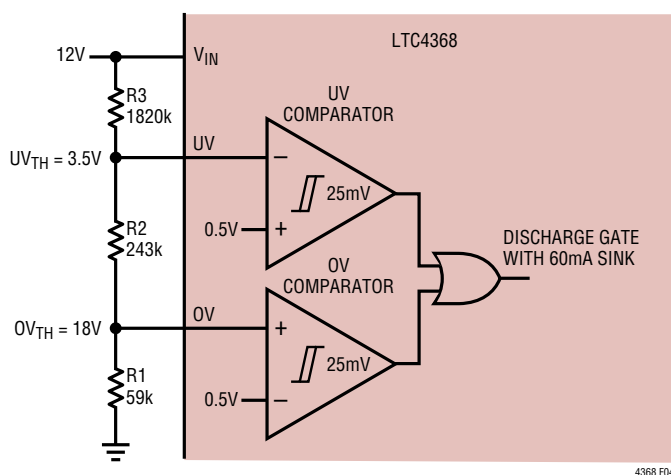

Figure 4. UV, OV Comparators Monitor 12V Supply
The LTC4368 provides two accurate comparators to monitor for overvoltage (OV) and undervoltage (UV) conditions at V_{IN} . If the input supply rises above the user adjustable OV threshold, the gates of the external MOSFETs are quickly turned off, thus disconnecting the load from the input. Similarly, if the input supply falls below the user adjustable UV threshold, the gates of the external MOSFETs are quickly turned off. Figure 4 shows a UV/OV application for an input supply of 12V.
The external resistive divider allows the user to select an input supply range that is compatible with the load at V_{OUT} . Furthermore, the UV and OV inputs have very low leakage currents (typically $< 1nA$ at $100^{\circ}C$), allowing for large values in the external resistive divider. In the application of Figure 4, the load is connected to the supply only if V_{IN} lies between 3.5V and 18V. In the event that V_{IN} goes above 18V or below 3.5V, the gate of the external N-channel MOSFET is immediately discharged with a 60mA current sink, thus isolating the load from the supply.
The following 3-step procedure helps select the resistor values for the resistive divider of Figure 4. This procedure minimizes UV and OV offset errors caused by leakage currents at the respective pins.
The example of Figure 4 uses standard 1% resistor values. The following parameters were selected: